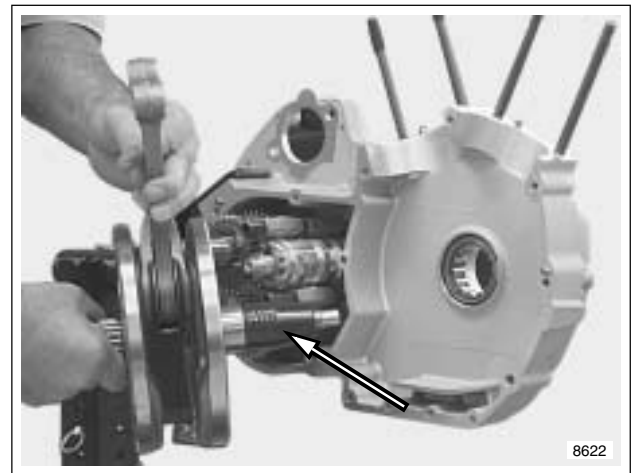

Figure 3-150. Installing Flywheel Assembly with CRANKSHAFT GUIDE (Part No. HD-42326)
4. See Figure 3-150. Attach left crankcase half to engine stand.